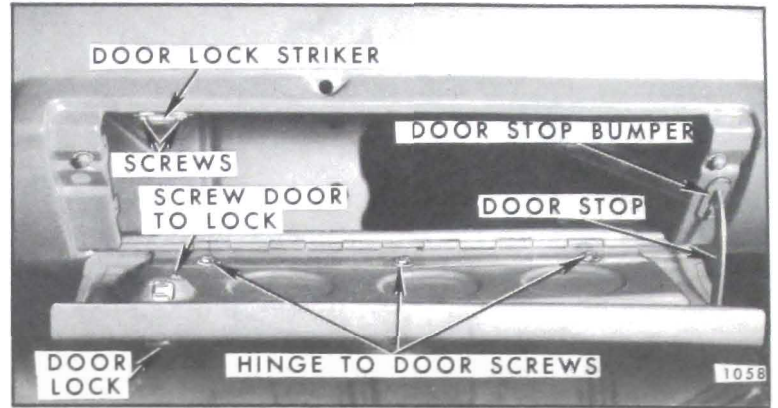

Fig. 3-22—Instrument Panel Compartment Door
The instrument compartment door hinges and stops are an integral part of the door or attached by screws. The hinges and door assemblies are attached to the instrument panel by screws. To remove the door assemblies, remove attaching screws securing hinge to instrument panel (Figs. 3-22, 3-23, 3-24, 3-25) lift door, rotate counterclockwise to remove stop from opening in panel.
4. Striker plates are adjustable on the instrument panel by loosening the attaching screws and positioning the striker plate as desired (Figs. 3-22, 3-23, 3-24 and 3-25).
1. Open compartment door, remove screw attaching lock to door inner panel and remove lock assembly (Figs. 3-22, 3-23, 3-24 and 3-25).